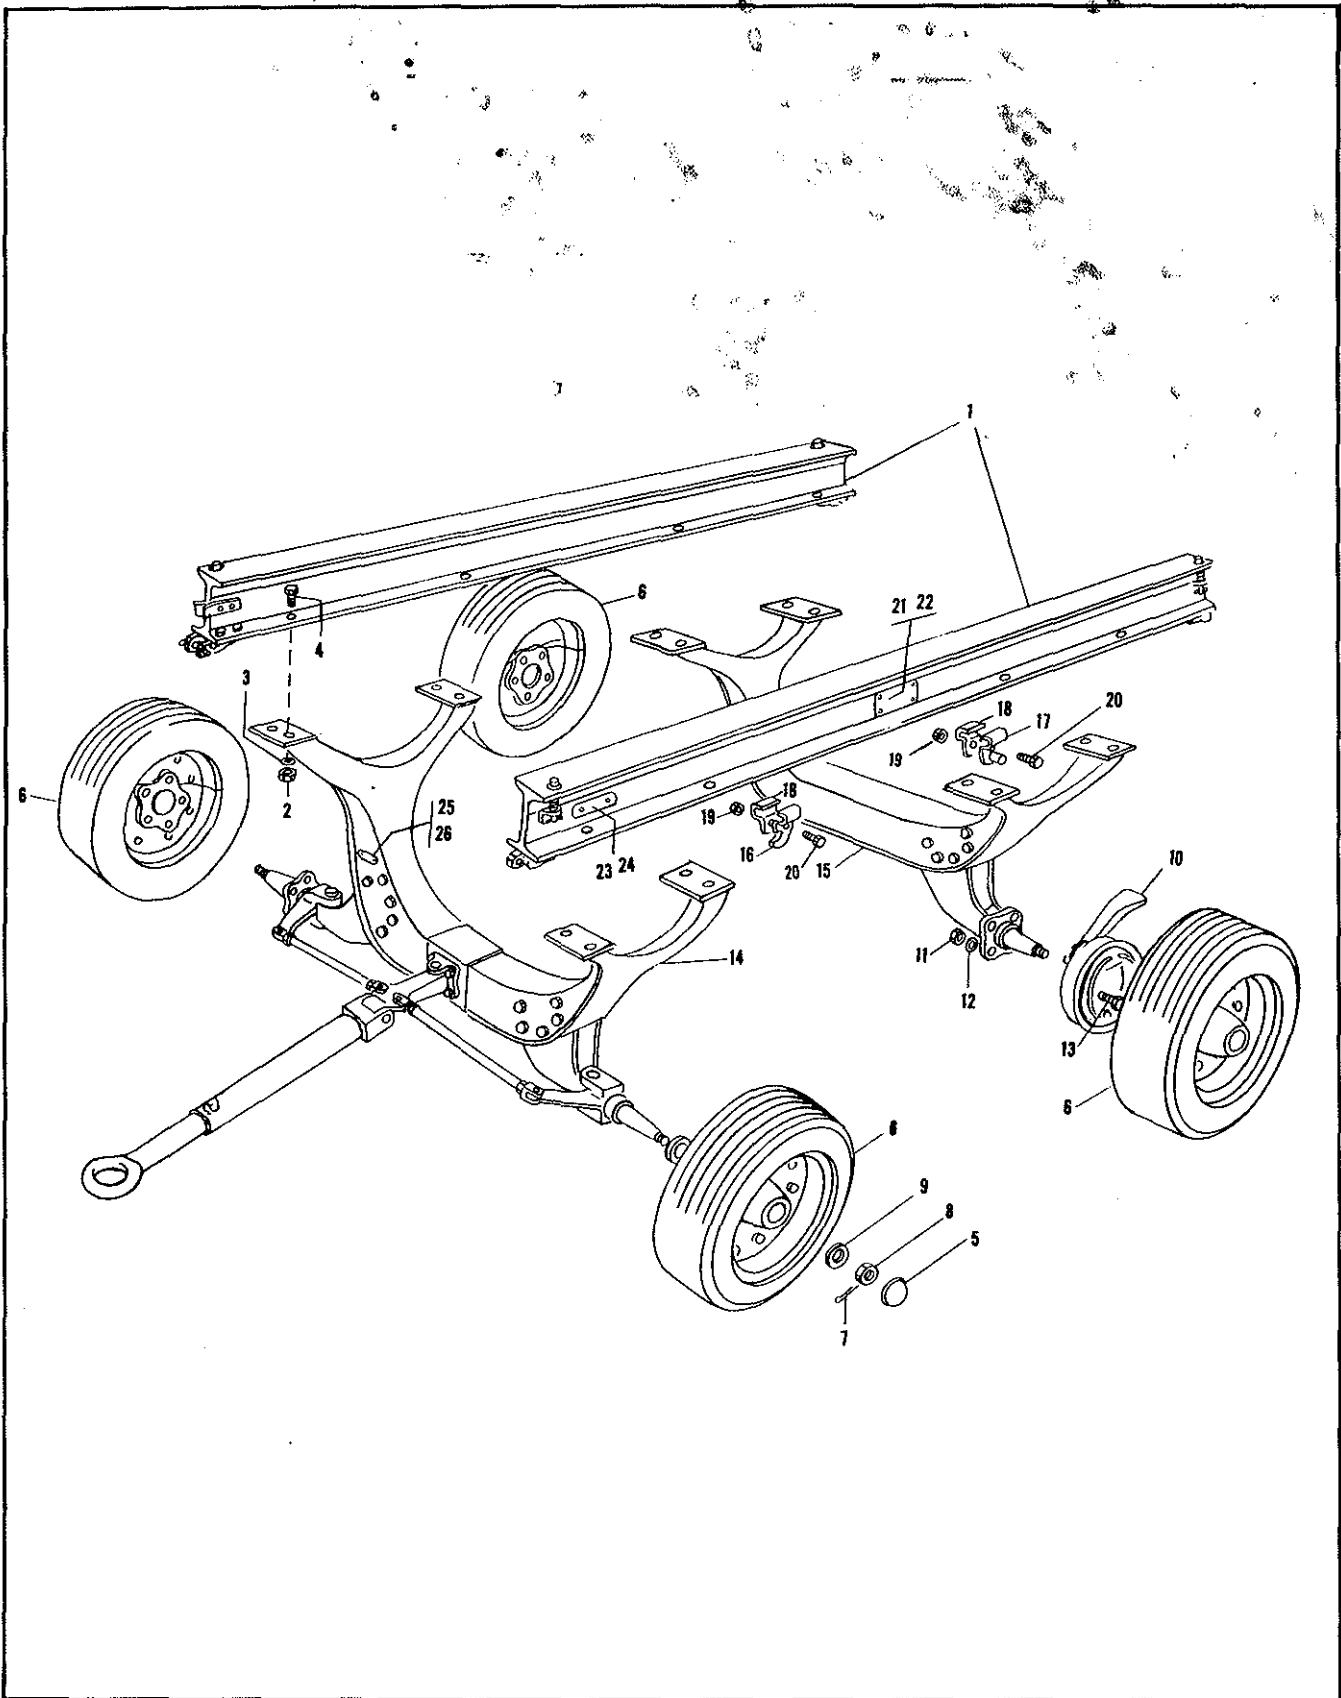

Figure 1. Engine Transportation Trailer Assembly
*Previously listed, Figure 1, indexes 5, 7, 8, 9.